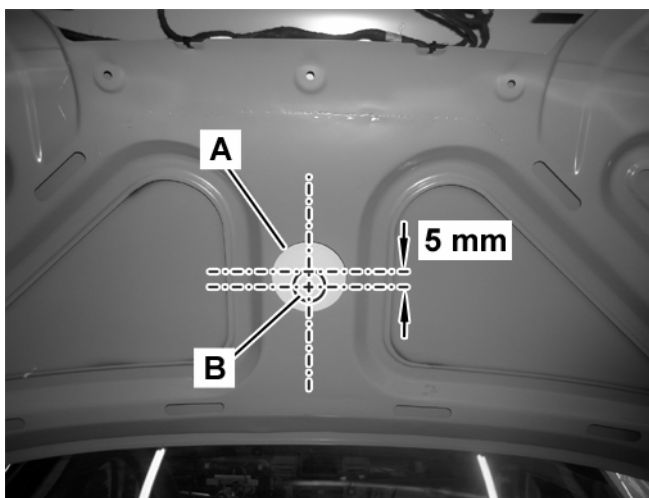

Figure 2
3. Mark the center of the hole (B) in the trunk lid panel.
Note: The hole (B) must be marked 5mm under the existing hole in the reinforcement panel of the trunk lid (A) – See Figure 2. The centerline of the hole (A) is the same as the centerline of the new hole (B).
4. Drill a 3 mm diameter pilot hole at the mark indicated in step 3 (B, Figure 2).